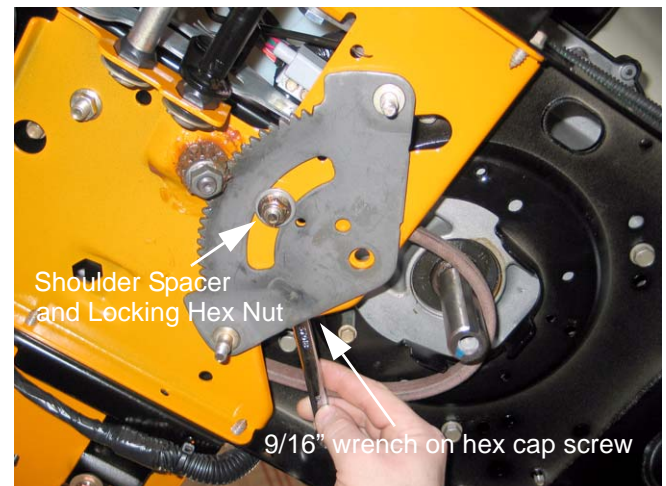

Figure 35.10
35.10. Using a 9/16" wrench and socket, remove the hex cap screw, shoulder spacer and hex nut in the middle of the steering gear. Remove the steering gear. See Figure 35.10.